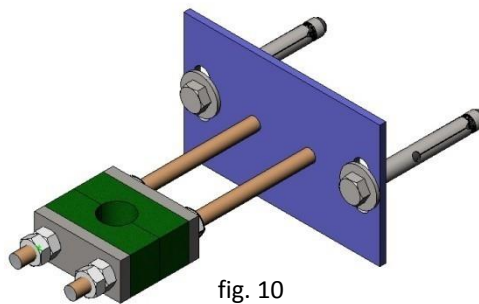

fig. 10
- A stem support-guide is recommended (fig. 10) every 1.5 m.